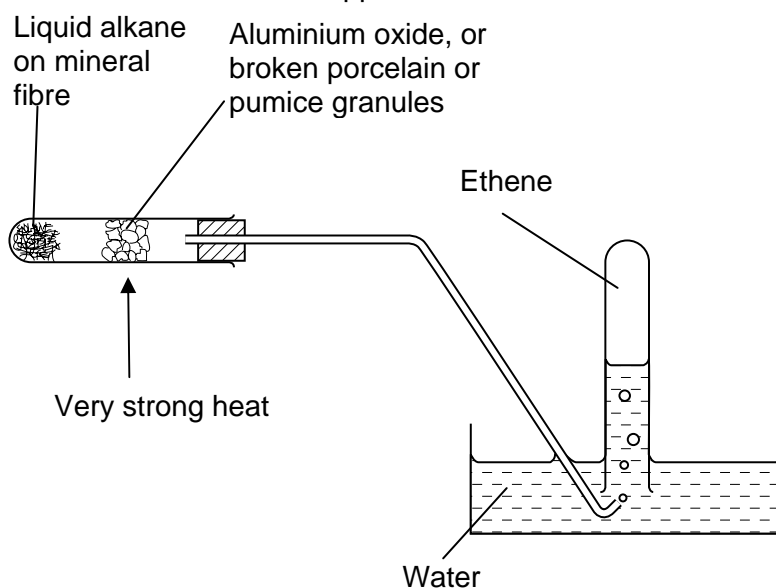

Figure 25.1
2. Set up the apparatus as shown in Fig. 25.1.